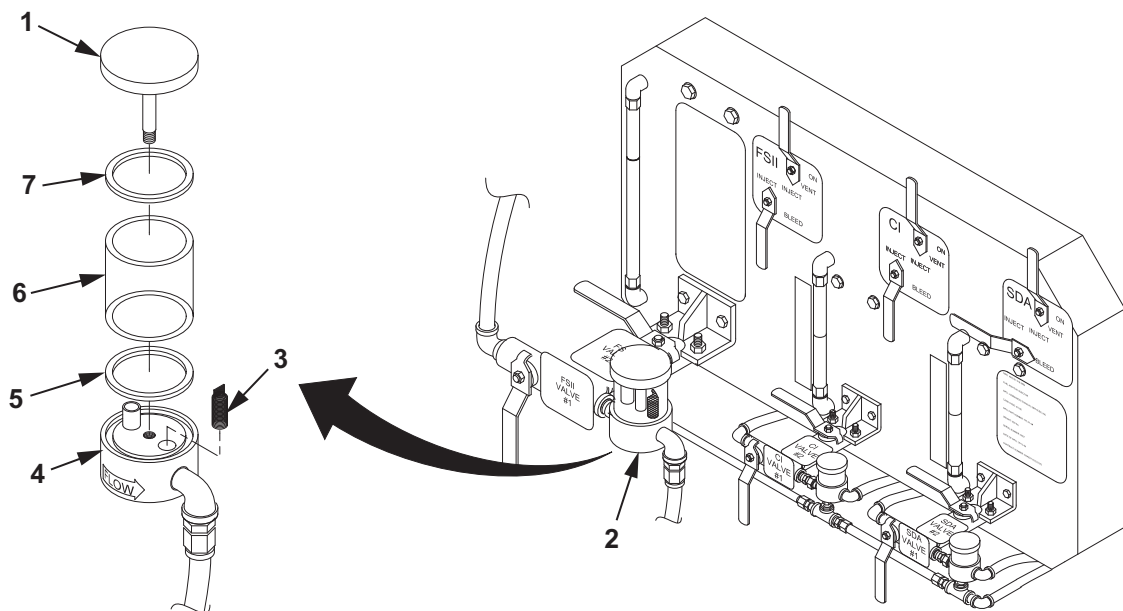

Figure 1. High Volume Sight Flow Indicator Maintenance.
1. Install filter element (Figure 1, Item 3) in body (Figure 1, Item 4).
2. Apply thin coat of petrolatum to new O-rings (Figure 1, Item 7, 5).
3. Install new O-ring (Figure 1, Item 5) on body (Figure 1, Item 4) of HI volume sight flow indicator (Figure 1, Item 2).
4. Install glass (Figure 1, Item 6) on body (Figure 1, Item 4).
5. Install new O-ring (Figure 1, Item 7) on cap (Figure 1, Item 1).
6. Install cap (Figure 1, Item 1) on body (Figure 1, Item 4) of HI volume sight flow indicator (Figure 1, Item 2). Hand tighten cap (Figure 1, Item 1).